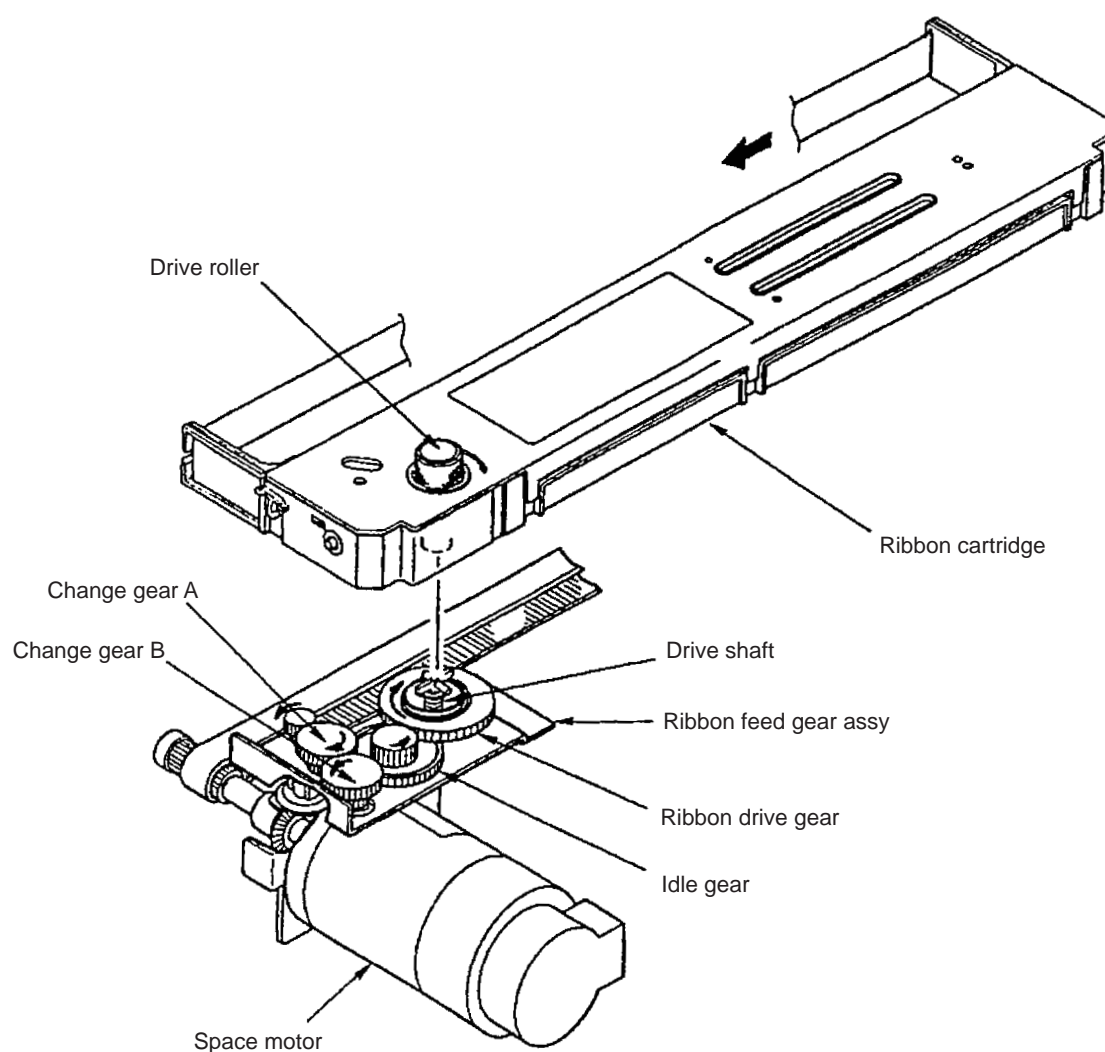

Figure 2-5 Ribbon feed mechanism
2.3.3 Ribbon Feed Mechanism and Operation (See Figure 2-5)